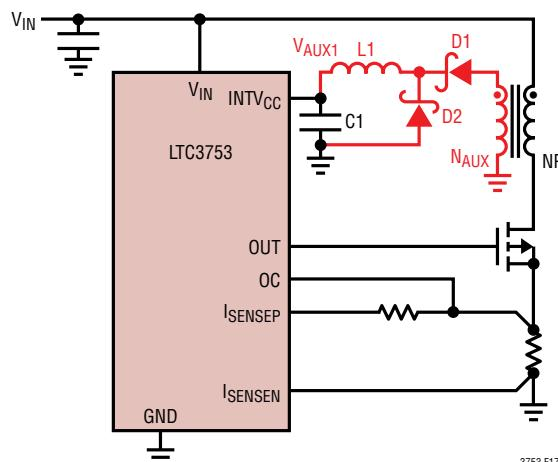

Figure 17. Primary-Side Bias  $V_{AUX1}$  ( $N_{AUX}$ ,  $L1$ ,  $D1$ ,  $D2$ )
of that internal linear regulator is a limiting factor in the forward converter design, then a primary-side bias ( $V_{AUX1}$ ) can be generated to overdrive the  $INTV_{CC}$  pin (Figure 17).  $V_{AUX1}$  is generated using an extra winding ( $N_{AUX}$ ) from the main power transformer in combination with an inductor ( $L1$ ) and two Schottky diodes ( $D1$ ,  $D2$ ) to generate a buck-derived supply. A 1mH inductor will usually suffice and should be chosen to handle the maximum supply current required by  $INTV_{CC}$ . See also the section  $INTV_{CC}$  Regulator Bypassing and Operation in the Applications Information Section.
- (2) Use a buck-derived bias using an extra winding from the main power transformer (similar method as Figure 17, applied to secondary-side circuitry)